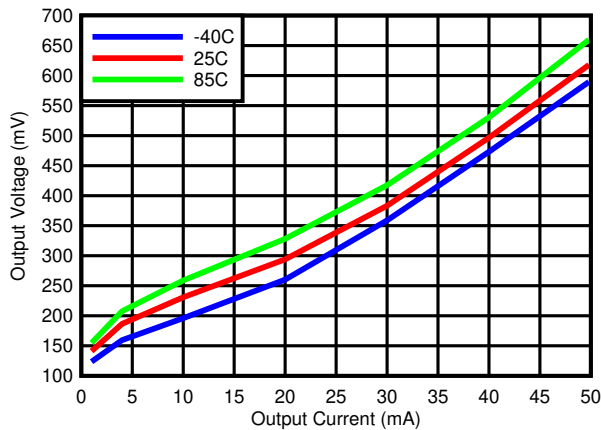
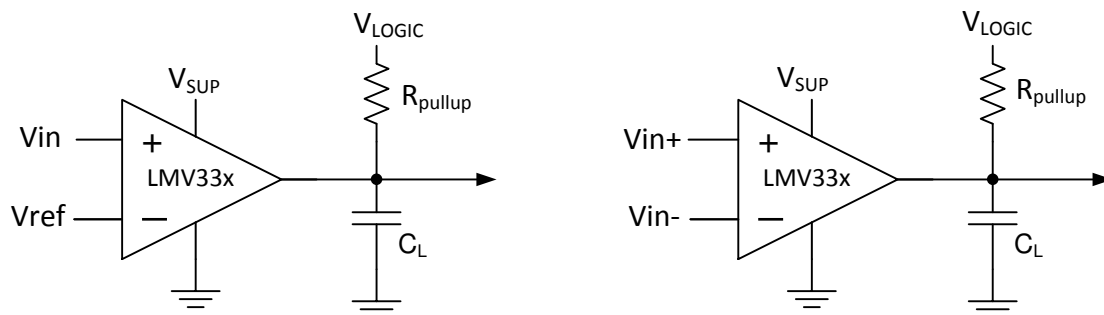

图 6-3. Output Voltage vs Output Current
图 8-1. Typical Application Schematic
The output consists of an open drain NPN (pull-down or low side) transistor. The output NPN will sink current when the positive input voltage is higher than the negative input voltage and the offset voltage. The  $V_{OL}$  is resistive and will scale with the output current. Please see Figure 6-3 for  $V_{OL}$  values with respect to the output current.
Output current is determined by the pull-up resistance ( $R_{pullup}$ ) and Vlogic voltage, refer to 图 8-1. The output current will produce a output low voltage ( $V_{OL}$ ) from the comparator. In which  $V_{OL}$  is proportional to the output current. Use 图 6-3 to determine  $V_{OL}$  based on the output current.
- $R_{CE}$  can be determine by taking the slope of 图 6-3 in it's linear region at the desired temperature, or by dividing the  $V_{OL}$  by  $I_{out}$